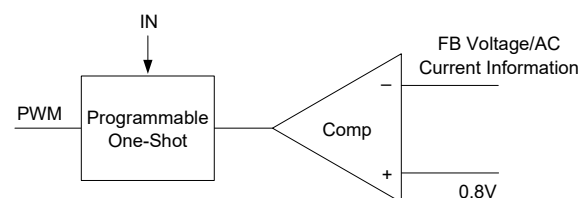

Figure 2. Simplified Control Schematic of AOZ2152EQI-30
The control algorithm of AOZ2152EQI-30 is constant-on-time PWM control with input feed-forward. The simplified control schematic is shown in Figure 2. The high-side switch on-time is determined solely by a one-shot whose pulse width is inversely proportional to input voltage (IN). The one-shot is triggered when the internal 0.8V is higher than the combined information of FB voltage and the AC current information of inductor, which is processed and obtained through the sensed low-side MOSFET current once it turns-on. The added AC current information can help the stability of constant-on time control even with pure ceramic output capacitors, which have very low ESR. The AC current information has no DC offset, which is fundamentally different from other V^2 constant-on time control schemes.